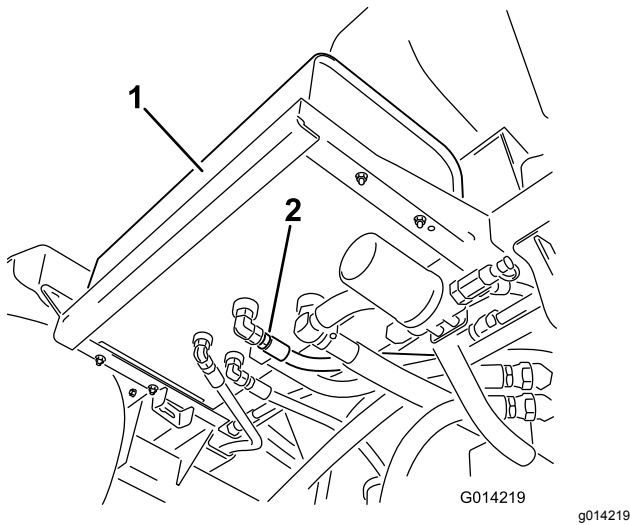

Figure 63
2. Clean the area around 1 hydraulic hose fitting on the bottom of the hydraulic oil tank (Figure 63).
4. Remove the hose fitting from the tank, allowing the oil to drain into the pan (Figure 63).